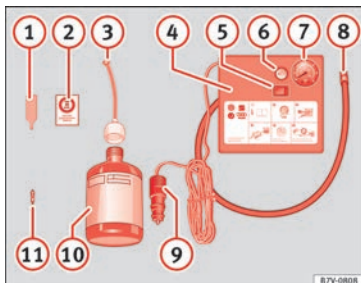

Fig. 101 Standard representation: contents of the anti-puncture kit.
The tyre mobility system is located underneath the floor covering in the boot. It includes the following components » **Fig. 101**:
Screw the inflator tube » **Fig. 101** ⑧ again and check the tyre pressure on the gauge ⑦.